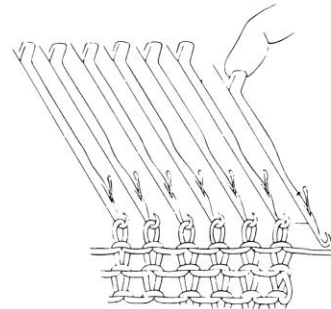

Fig.51
This can only be done at the start of row. To do this pull forward into working position the next empty needle at the end nearest the carriage, and knit. (Fig.51)
- Bring the next empty needle into the working position. (Fig.51)
- Bring into working position the next empty needle at the nearest end. (Fig.51)